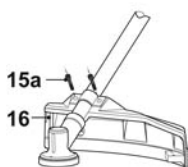

Fig. 4
- > Attach the guard [16] with the mounting kits [15], using the torx T30 key [41] as screwdriver (Fig. 4).